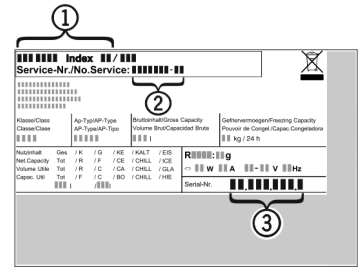

Fig. 9
► Read the appliance designation *Fig. 9 (1)*, service No. *Fig. 9 (2)* and serial No. *Fig. 9 (3)* off the model plate located inside the appliance on the left-hand side.
► Notify the customer service, specifying the fault, appliance designation *Fig. 9 (1)*, service No. *Fig. 9 (2)* and serial No. *Fig. 9 (3)*.